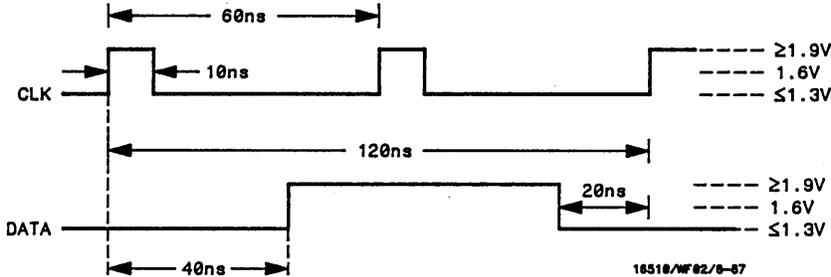

Figure 3-29. Waveforms for Clock, Qualifier, and Data Inputs Test 7
- 2. Adjust pulse generator for the output in figure 3-29. Use double pulse mode of pulse generator for clock waveform.